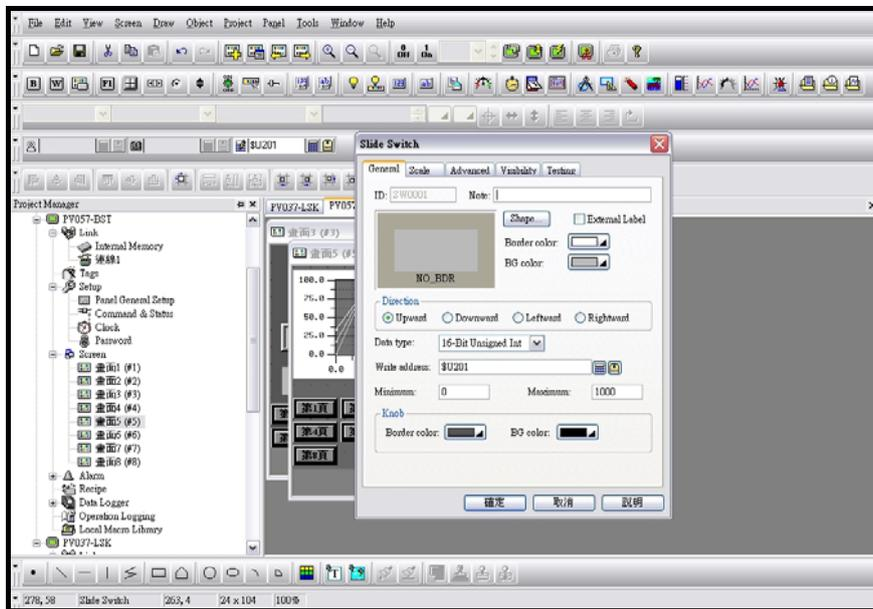

Figure 2-97 New project _ step 6_Object properties setting dialogue box.
Step 6 : When complete all settings, users can start to design needed screens. Double left click the mouse to get further setting dialogue boxes. To move or adjust any object by moving checks on the edges , see as shown in figure 2-97.